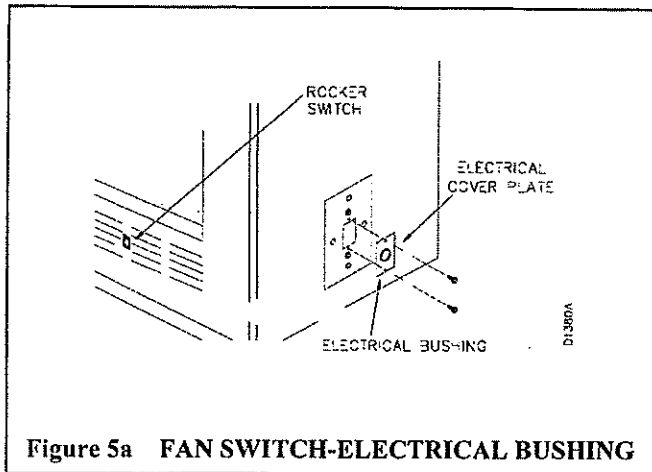

Figure 5a FAN SWITCH-ELECTRICAL BUSHING
Fan or blower kit is optional (for circulating models only) with this fireplace. Use of blowers or fans other than manufactured by DESA voids the warranty. Fan is operated by pressing the rocker switch (see figure 5a) in the lower right hand corner of the fireplace face. Blower is operated by turning the control knob (not shown).
Fan/blower kit electrical connections are made through the electrical cover plate on the side of the fireplace as shown in figure 5a.
- Remove electrical cover plate (with electrical bushing) from the fireplace by removing the two sheet metal screws as shown in figure 5a.